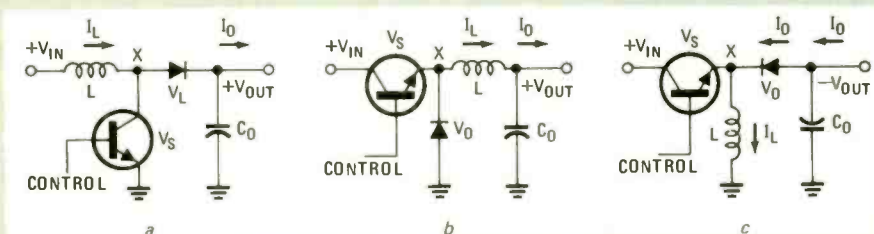

FIG. 1—BASIC SWITCHING REGULATORS. Step-up is shown in a, step-down is shown in b, and inverting-type is shown in c.
The Telecorder (see Fig. 1) contains a built-in regulated power supply that can be used to power the recorder and save batteries. This is particularly important in continuous monitoring applications.
**FIG. 1—SCHEMATIC of the Telecorder. The regulated supply can be used to power the recorder, thus eliminating the drain on its batteries. The interface device connects Telecorder to phone line.**
Figure 1-a shows the step-up switching regulator; i.e., its output voltage is greater than the input voltage. When the transistor saturates, point X will be near ground potential; thus voltage  $V_{IN}$ , minus the saturation voltage, is applied to the inductor. This causes current  $i_L$  to increase at a linear rate. The diode is reverse-biased, since the voltage at point X is less than the output voltage and no current flows to the output. When the transistor is switched off, current  $i_L$  continues to flow since it cannot change instantaneously. The voltage at point X now becomes equal to the sum of the output voltage and the voltage drop across the diode. In this state, current will flow through the diode (since it is now forward-biased) to the output capacitor and into the load—it will decrease at a linear rate. The cycle switching time of the transistor is varied to cause the average current to the output to equal the required load current.
Figure 1-b shows the basic step-down voltage regulator circuit,  $V_{OUT} < V_{IN}$ . In this configuration, sometimes called "a forward converter," the inductor is in series with the output load; thus, the energy is transferred directly to the load and inductor simultaneously when the transistor is both saturated and off. When the power switch is saturated, the voltage at point X increases to the input voltage minus the transistor saturation voltage. The difference between the voltage at point X and the output voltage is across the inductor. As previously stated, the current flows into the load via the transistor, inductor and output capacitor. When the voltage at the output increases beyond a predetermined level, the transistor is switched off via a feedback circuit. After
Figure 1-c is the voltage inverter. This circuit generates a negative output for a positive input. When the power transistor is saturated, the voltage at point X increases to a point that is equal to the input voltage minus the voltage drop across the transistor. This voltage is applied to the inductor, causing its current to increase linearly. Next, the switch opens and the voltage at point X drops to minus the output voltage minus the voltage drop across the diode. This will forward-bias the diode and the inductor current decays as a linear function. As with the step-down circuit, current from the input flows only when the transistor is saturated.